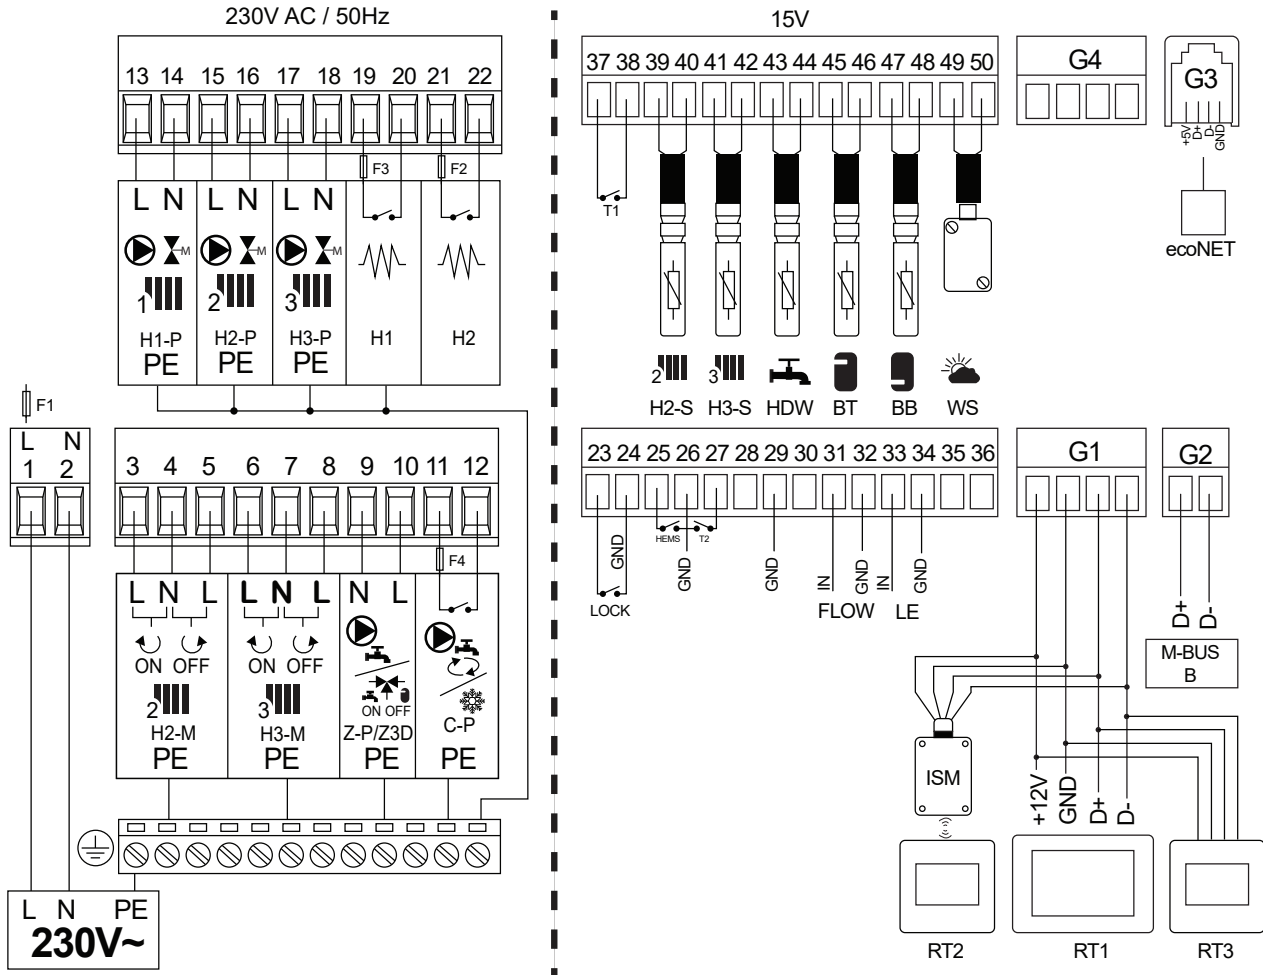

Figure 5-3: Wiring centre - Terminals
2. Connect L & N wires of the supply to Terminals 1 & 2. Refer to Figure 5-3 for wiring centre terminal diagram.
The Grant Aeron Smart Controller integrated system configuration creator will aid with the setup of the space heating and DHW system within the software of the touchscreen display. The steps in the configuration creator should reflect the system you have designed and electrically connected to the wiring centre. You must only configure components you have connected (Refer to Section 5 Figure 5-3 for wiring centre layout).